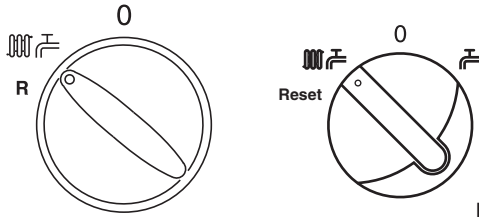

Fig. 13
**NOTE:** Depending upon model of boiler different types of Selector Switch and Central Heating Control Knob will be fitted (Figs. 13 & 14).
1. Ensure that there is power to the boiler (though it is not necessary for there to be any heating demand). Turn the Selector Switch (Fig. 13) to the boiler ON (central heating & domestic hot water) position.